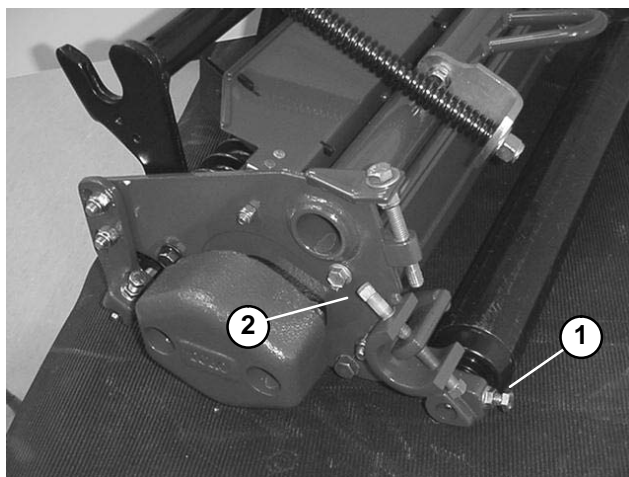

Figure 9
2. Adjustment of bedknife to reel is accomplished by first, loosening bottom screw on each side of cutting unit (Fig. 9), then tightening the top adjustment screw on each side of cutting unit. This adjustment will position the bedknife closer to the reel blades. Adjust until light contact is heard on both ends of the reels.
3. After adjusting bedknife to reel, make sure that both the top and the bottom adjustment screws are secured on both ends of the cutting unit (Fig. 9).